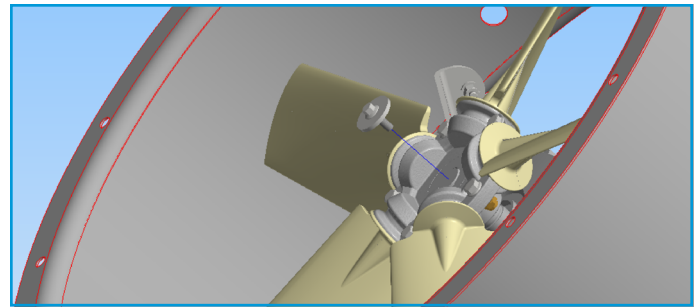

Figure 7. Removal of retaining bolt.
1. Using suitable gloves and an appropriate socket, remove the impeller retaining bolt as per figure 7. Ensure that the impeller is restrained by hand when attempting to undo the bolt.